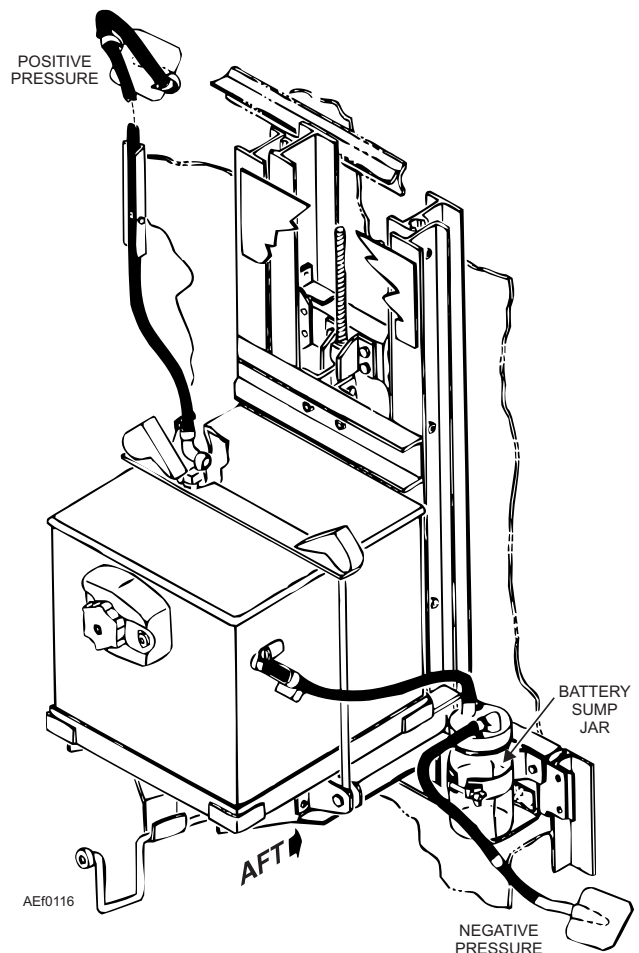

Figure 1-16.—Battery vent system.
**VENTED LEAD-ACID BATTERY (VLAB).—**In a vent system (fig. 1-16), the void above the cells and